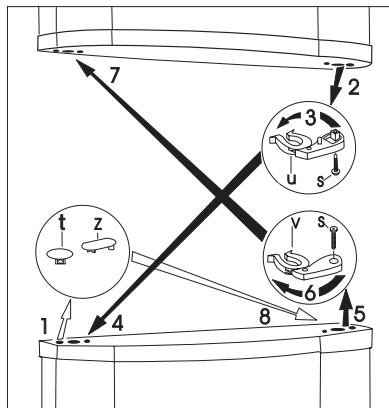

Fig. 4
- Remove stops in both doors (t, z) (Fig. 4).
- Lift out the insert for the lower covering grid (e) using a screw driver (Fig. 4).
- Unscrew the bottom door retaining pin for the freezer door (h, f) and then screw in on the other side. Don't forget the spacer (h) (Fig. 4).
- Place the freezer door on the lower door retaining pin (f) (Fig. 4).